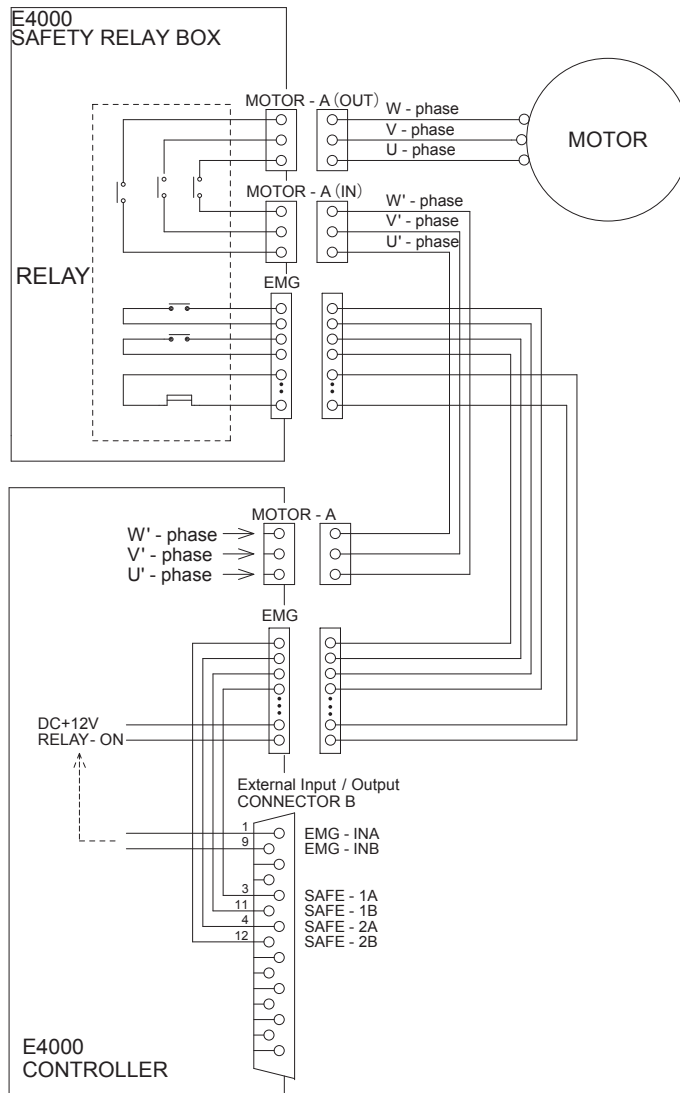

Fig. 36
- If the (NO) Normally Open contacts of the Safety Relay are welded together by an over load or short circuit the (NC) Normally Closed contacts separation are maintained with more than 0.5mm spacing by the relay's recoil mechanism.
- Applied Voltage (V)  $\leq$  DC+30V
- Refer to Fig. 36 for the connection diagram.